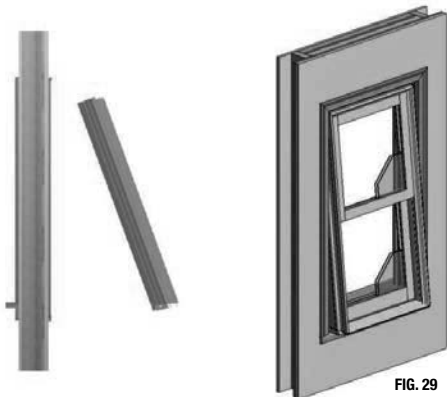

FIG. 29
- A) Tilt top of replacement window toward interior as shown below. (Fig. 29)